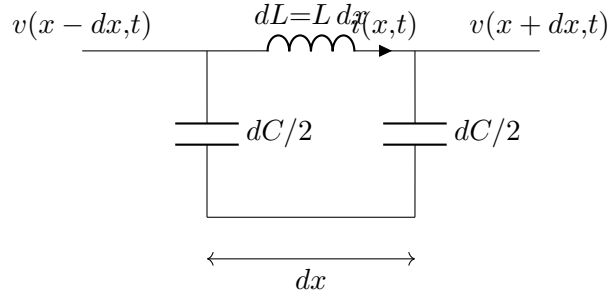

Figure 8: Infinitesimal section dx of a lossless distributed transmission line.
- Starting from an infinitesimal section of length dx (Figure 8), derive the Telegrapher's wave equations in the time domain, and then convert them into the phasor domain.